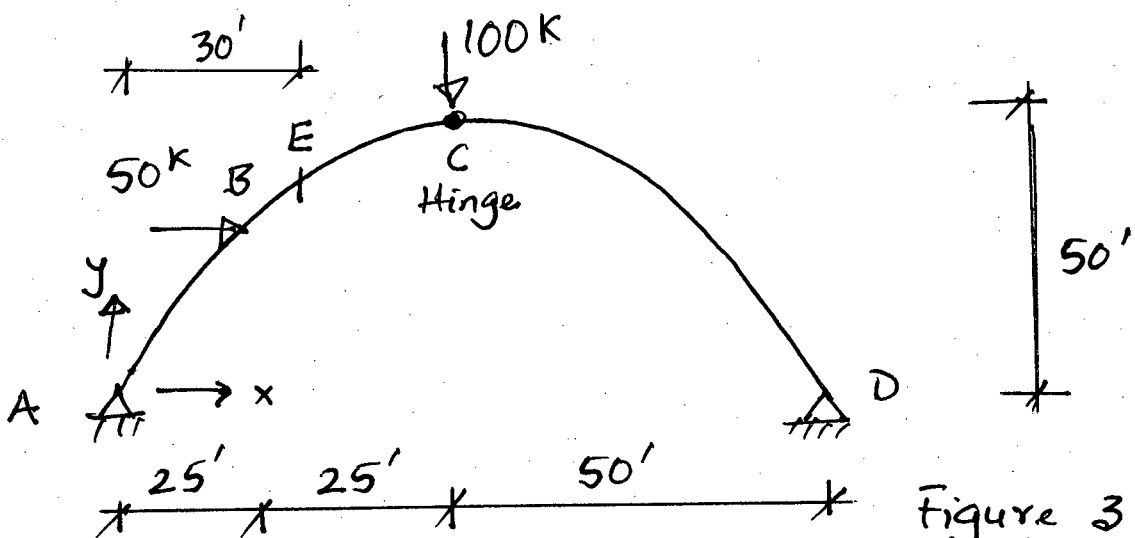

Figure 3
2. (a) The parabolic arch [$y = 2(x-x^2/100)$] shown in Figure 3 carries loads as shown in the figure. Calculate the values of normal force, shear force and bending moment at the point E which is located at a distance 30 ft from the left support. Determine also the maximum bending moment for the arch. (24+8)